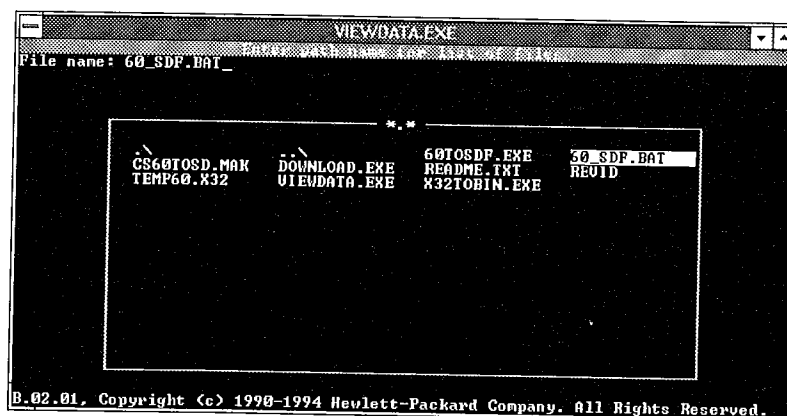

Fig. 8C File name selection screen
Step 9. Select the "Read" option to produce a screen similar to that shown in Fig. 8C (the file names will be different to those shown).